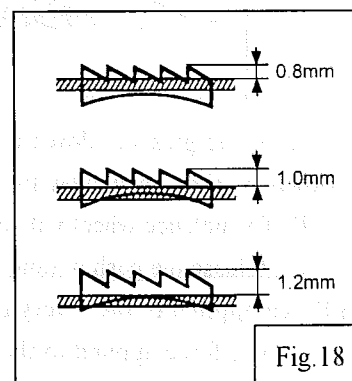

Fig.18
13. Adjustment of Feed dog height (Fig.18):